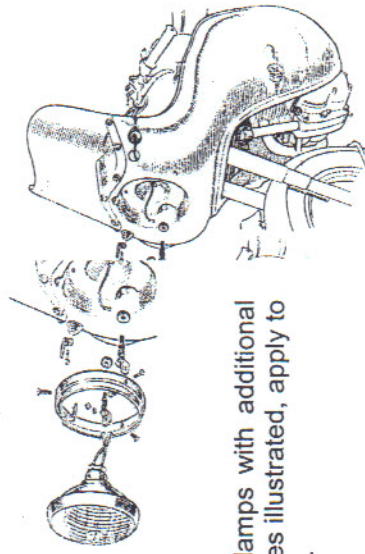

Fig 2. Sportsflow fairing assembly with headlamp exploded out.
**4 . Fitting the Headlamp** (see Fig. 2) - With 4BA nuts, bolts and washers, fit the two headlamp adjusters supplied with the fairing, into the lower securing holes of the headlamp mounting rim. The slotted angle bracket also supplied with the fairing should be bolted to the top hole in the fairing headlamp recess.
Note – If a "Super 5" fairing is fitted to any of the "Crusader" models, it will be necessary to drill two 1 in. holes in the fairing to accommodate the side lamps, as shown in Fig.2. Be sure to drill these holes where the front and rear fairing mouldings are bonded together. A carpenter's drill provides the ideal tool for the job and after putting the lamps in position, a "drill can be run through each securing hole for the nuts and bolts.
"Sportsflow" Fairing Assembly, with Headlamp exploded out. Fig. 2.